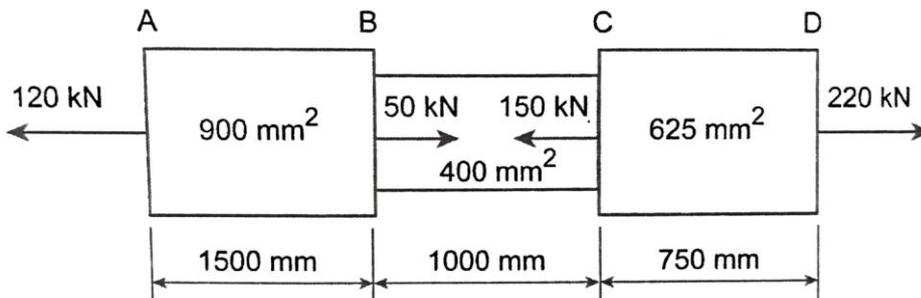

Figure-4
- 6 A member ABCD is subjected to loading as shown in **Figure-4**. Determine the total elongation of the material and the value of young's modulus of material is $2 \times 10^5 \text{ N/mm}^2$.